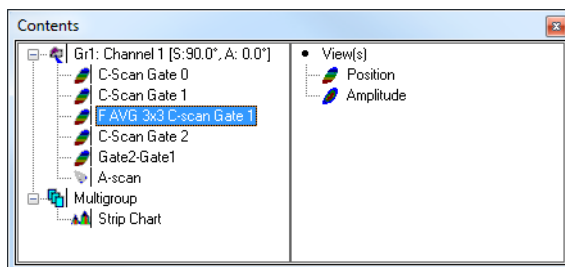

Figure 7-60 The Contents dialog box
2. In the menu, select **View > Contents** and add the matrix filtered data to the display. See Figure 7-60 on page 401.